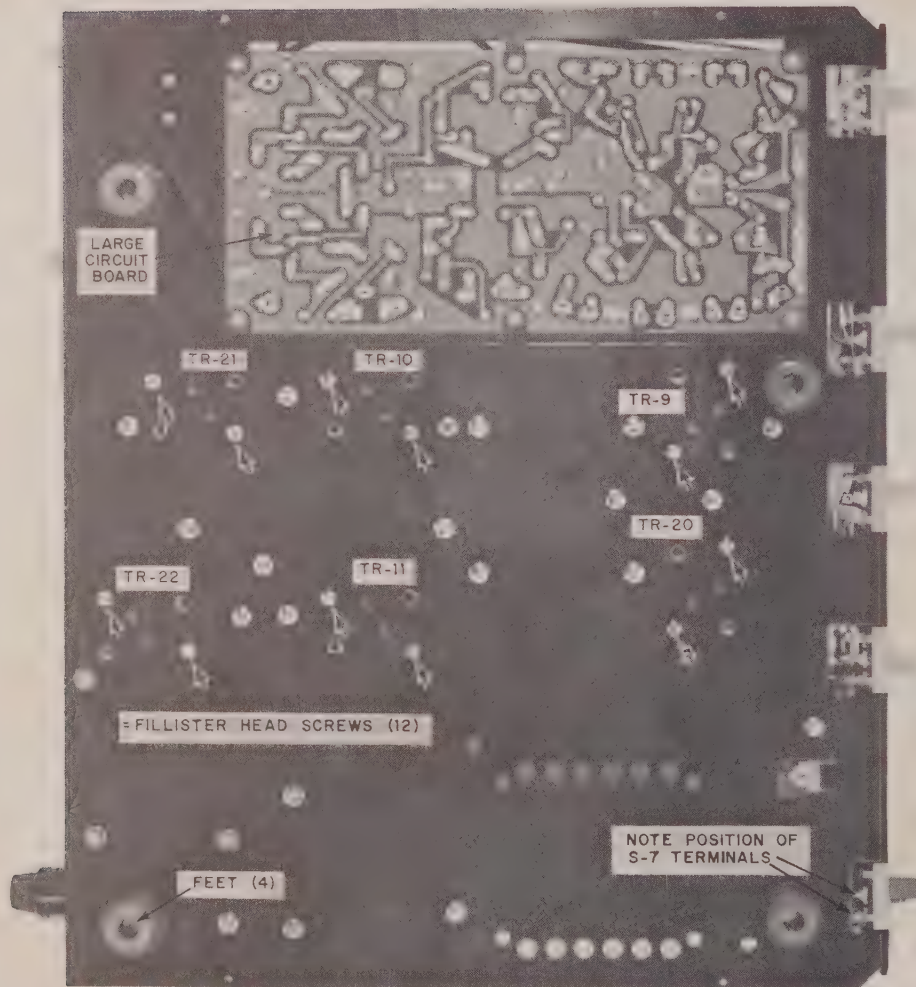

FIGURE 16. BOTTOM VIEW OF CHASSIS
- ✓ 4 Feet and 4 thread-cutting screws. Mount each foot with a thread cutting screw in the locations indicated in Figure 16.
- ✓ Large transistor socket for TR-9. Mount on inside of chassis with two FILLISTER-HEAD screws, #6 lockwashers and nuts. Place the lockwasher directly under the nut. **DO NOT USE ANY OTHER KIND OF SCREW TO MOUNT THESE SOCKETS.** Larger heads will short the power transistors, resulting in permanent damage. Notice the "E" and "B" stamped on the sockets. Position the sockets exactly as shown. Figure 16 shows the bottom of the chassis and where each fillister-head screw goes.